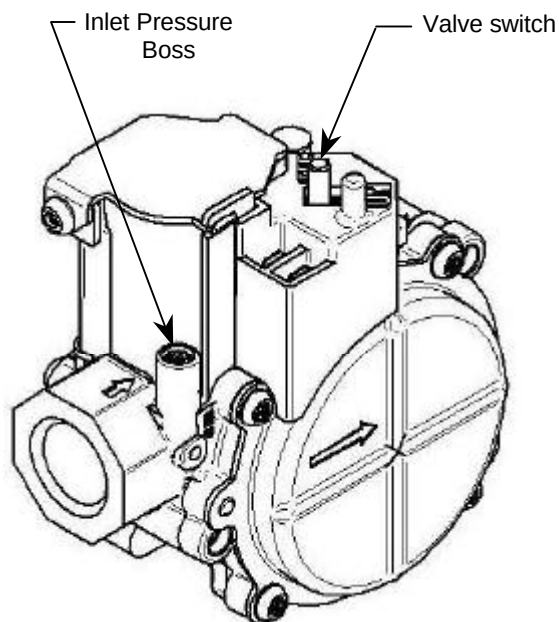

Figure 3
14. Using a 3/32 inch hex wrench, loosen inlet pressure tap screw (located in inlet pressure boss, see fig. 3) one turn (screw need not be removed).
15. Attach a 5/16 inch hose and manometer to the inlet pressure boss of the valve (see fig. 3). Hose should overlap boss 3/8 inch.